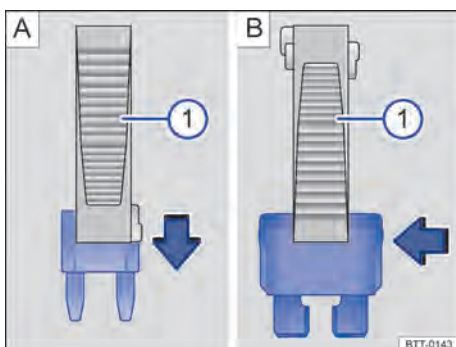

Fig. 182 Removing or fitting a fuse using the plastic pliers ①.
- If applicable, take the plastic tweezers → Fig. 182 ① out of the fuse box cover.
- For *small fuses*, push on the catch ① from above → Fig. 182 A.
- For *bigger fuses*, push the catch ① onto the fuse from the side → Fig. 182 B.
- If the fuse has blown, replace it with a new fuse of the *same* amp rating (same colour and same imprint) and *same* size → ①.